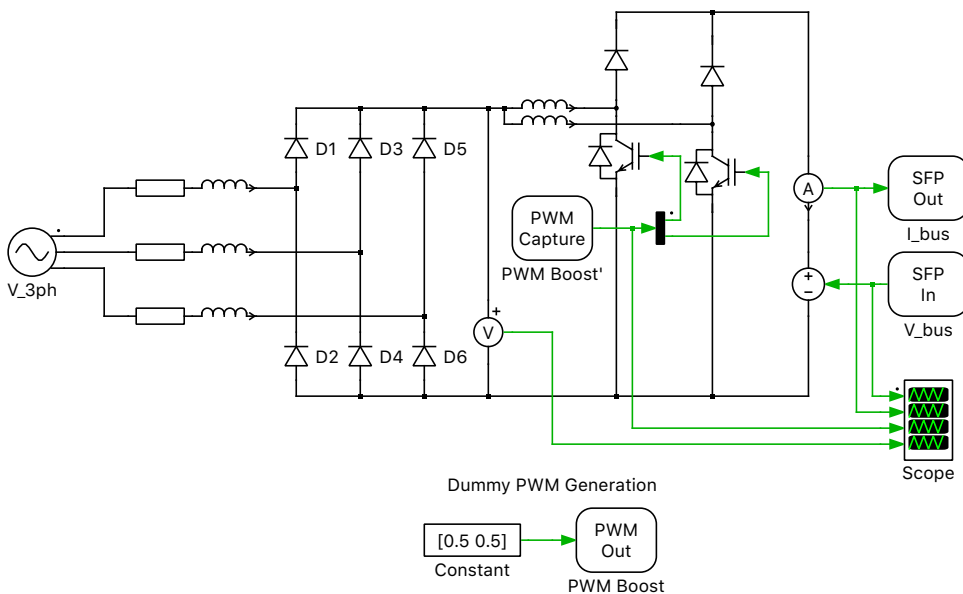

Figure 8: Rectifier subsystem after splitting using SFP In/Out ports
- 3 Cut the rectifier-side circuit with its “dummy PWM Generation” logic and paste it into the “Rectifier” subsystem, as shown in Fig. 8. The DC-link capacitor voltage is received through an SFP In block and is used to drive a Voltage Source (Controlled) block, which acts as the load of the rectifier stage. The load current is measured and sent out through an SFP Out block back to the inverter side.